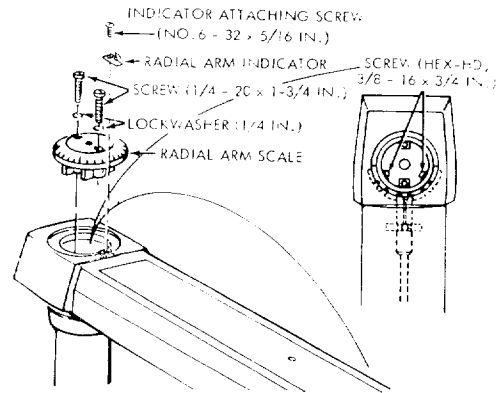

Figure 62
- (1) Remove the indicator attaching screw and radial arm indicator. (See figure 62.)
- (2) Remove two 1/4-20 x 3/4-inch screws (figure 62) to free the radial arm cap, and lift out the cap.
- (4) Loosen (do not remove) two 3/8-16 hex-head screws (figure 62) located inside the column tube.